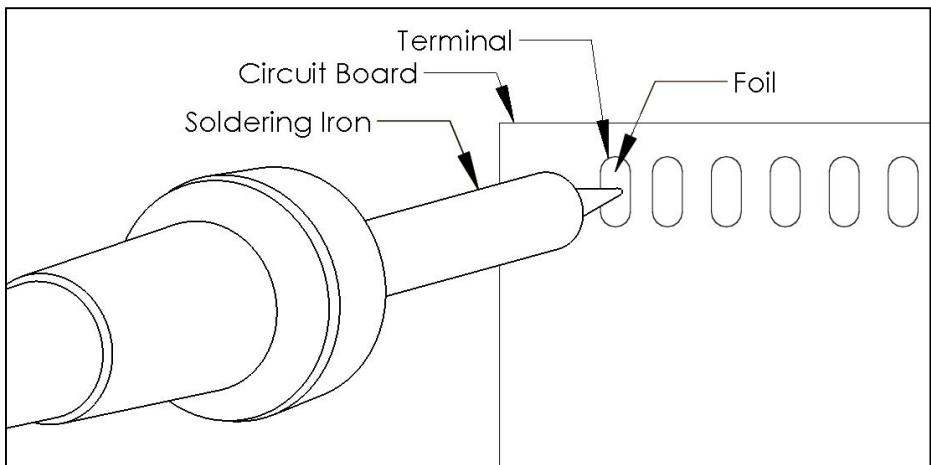

Figure 3: Heating the Circuit Board Foil with Soldering Iron
1. Touch the iron tip to the foil of a terminal on the top row of the circuit board (See Figure 3). This will heat the foil.